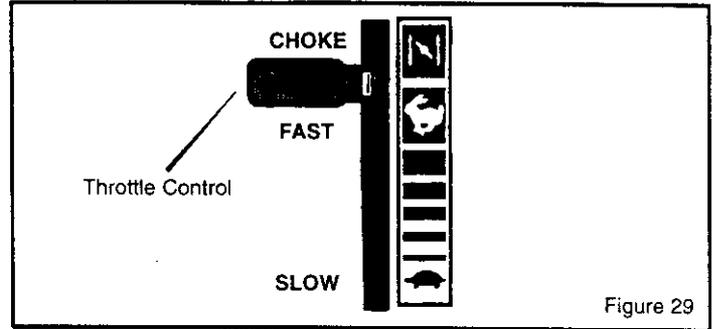

Figure 29
1. Move the **throttle control** to the **FAST** position (Figure 29).